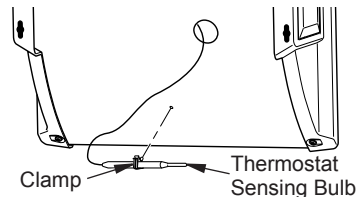

Figure 5 - Attaching Thermostat Sensing Bulb
1. Place clamp on thermostat sensing bulb as shown in Figure 5. Clamp is provided in hardware package.
2. Snap clamp into mounting hole as shown in Figure 5. Mounting hole is located in the center of lower back panel of heater. Make sure the thermostat sensing bulb is horizontal.